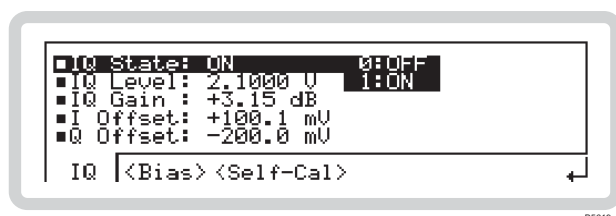
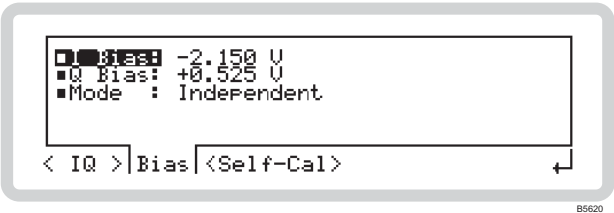

Fig. 3-58 Differential IQ
Fig. 3-59 Bias setup, differential IQ
- 2 Press to show the main screen, and touch the soft box to select the function. Touch and press to view the differential IQ screen (Fig. 3-58).
From the differential IQ menu of Fig. 3-58, touch <Bias> or press **<TAB>** to display the bias setup screen (Fig. 3-59).
From the differential IQ menu of Fig. 3-58, touch <Self-Cal> or press **<TAB>** to display the self-calibration screen (Fig. 3-60).